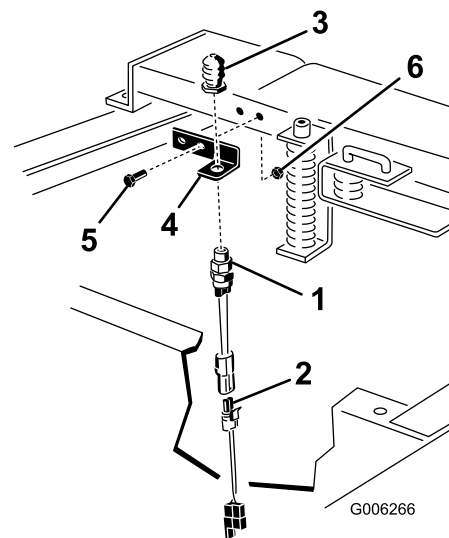

Figure 3
11. Mount the new seat switch bracket to the front of the seat support with (2) cap screws and nuts. Position the bracket as shown in Figure 3.
12. Remove the rubber boot and the top jam nut from the button end of the new seat switch (Figure 3).
13. Insert the button end of the seat switch up through the hole in the new seat switch bracket and loosely secure it to the bracket with the jam nut (Figure 3).
16. Connect the wire harness adapter to the switch wire harness (Figure 3).